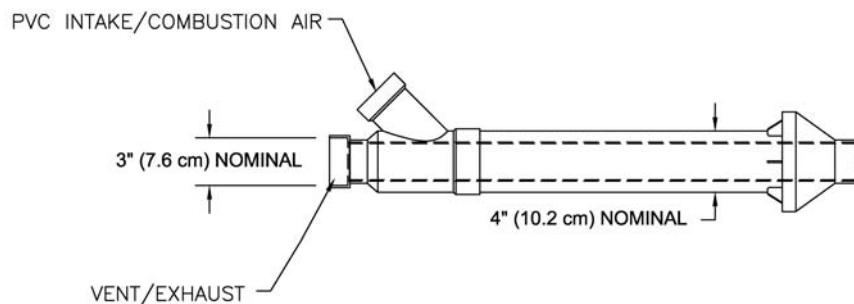

Figure 19. Dimensional Layout of Concentric Vent Kit (239-44069-01 3" Kit shown).
See Figure 19.
1. Become familiar with coaxial vent kit part no. 239-44069-01, as shown in Figures 19 through 21. For venting 4 inch (10.2 cm) or 2 inch (5.1 cm) diameter pipe, use the appropriate bell reducer to reduce to the 3 inch (7.6 cm) diameter vent size to connect to the 3 inch (7.6 cm) vent terminal connections. If the 2 inch diameter concentric vent kit is preferred with 2 inch diameter pipe, then order concentric vent kit part no. 239-44069-02 from your supplier.